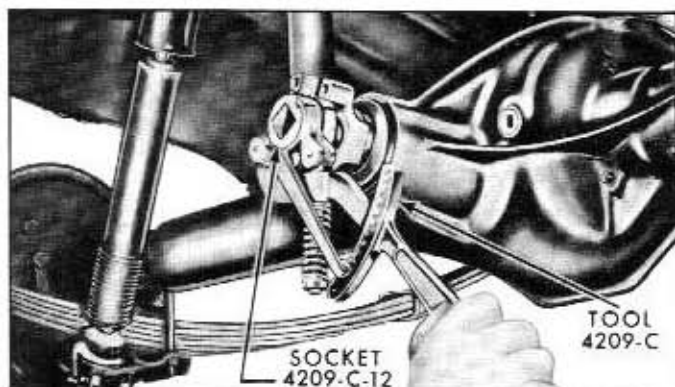

Fig. 4-29—Pinion Bearing Preload Check—(60C-5220)
9. Adjust the preload on used bearings to 10-16 inch pounds torque. On new bearings, adjust the preload to 17-27 inch pounds. Measure the preload with the Tools 4209-C and 4209-C-12 shown in figure 4-29.